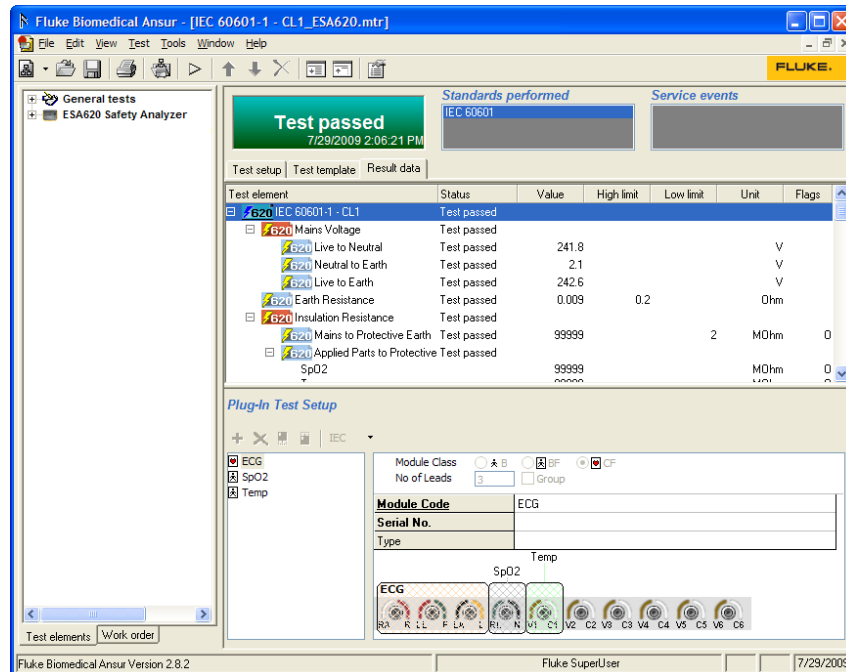

Figure 3-13. ESA620 Test Record
- Click the Next button (➡) to create a Test Record. Figure 3-13 is a sample of an ESA620 Test Record.